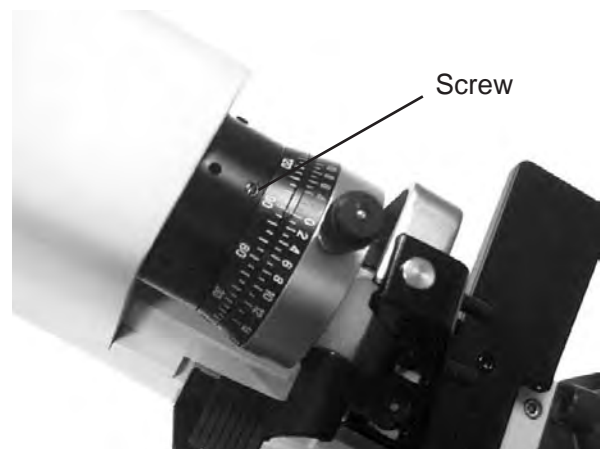

Figure MM-03 Prism Compensator Screws
1. Using a flathead screwdriver, remove the 3 Screws in the Prism Compensator. Refer to Figures MM-03 and MM-04.
Note: There is a Screw on the top of the Prism Compensator, and one on each side. Only two Screws are visible in Figures MM-03 and MM-04.